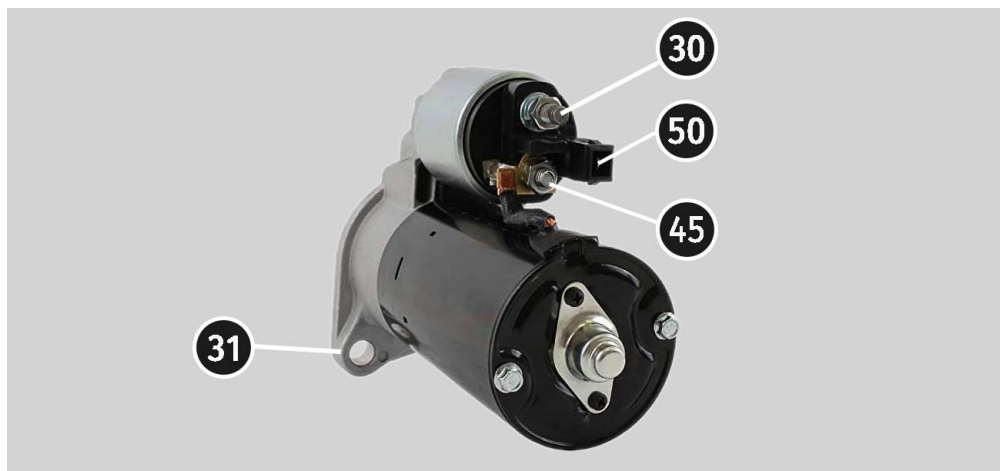

Figure 27. Position of terminals on the starter.
3. Connect the bench port 50 with the starter solenoid control connector (terminal 50 on the fig. 27).
4. Connect the cables K30 and K45 to the relevant starter terminals (fig. 27).